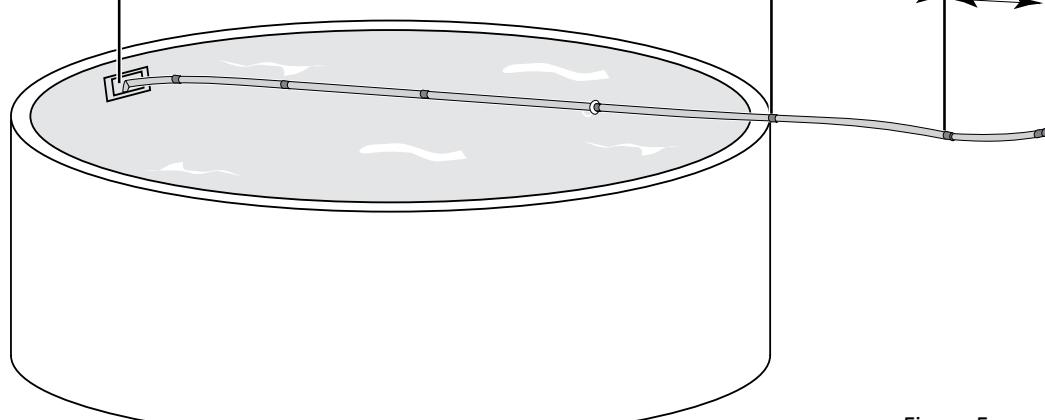

Figure 5
6. The overall length of hose needed will be determined by the distance from the point at which you attach the hose to the suction port to the furthest point in the pool, plus one length and the leader hose. Refer to **Figure 5**.